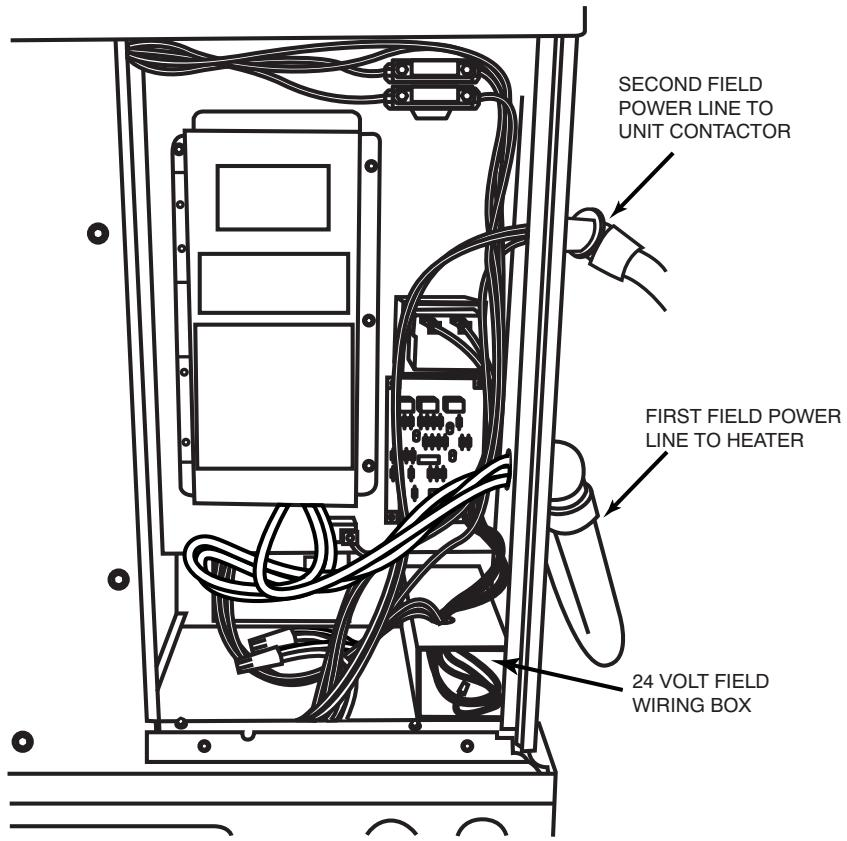
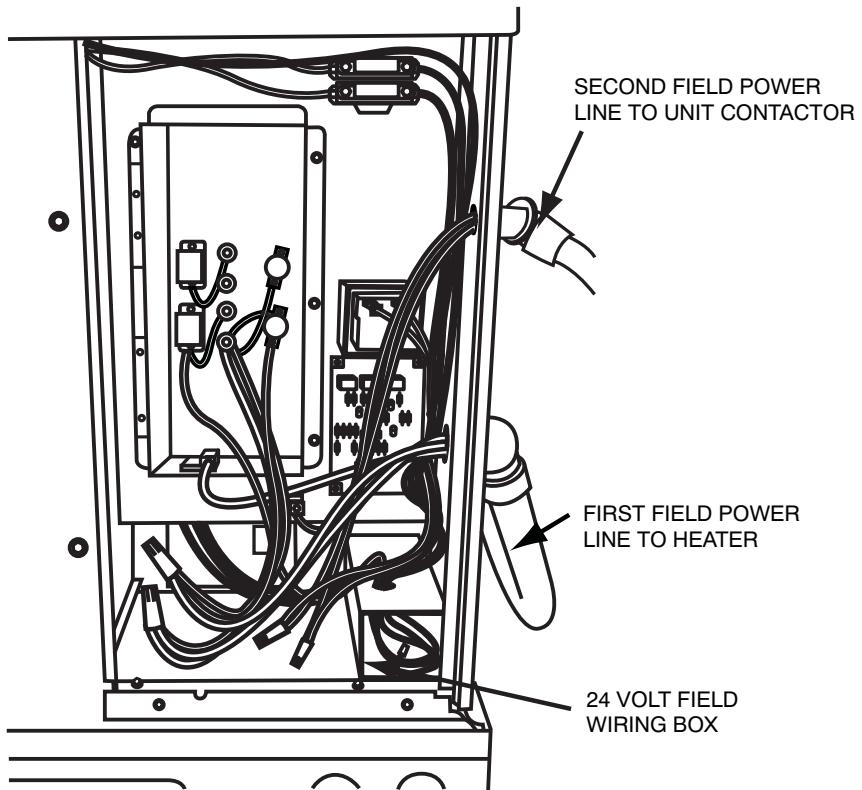

Fig. 6 - Dual Point Connections for Fused Heater
Fig. 7 - Dual Point Connection for Non-Fused Heater
2. Connect low voltage wires as shown in unit schematic diagrams found on the base unit installation instructions. These connections must be made in the 24v barrier section inside the unit panel (see Fig. 6 or Fig. 7).
3. Insert first field power line through the electrical heater access panel bottom hole (see Fig. 6 or Fig. 7) and connect to electric heater as shown in their respective wiring diagram found on the heater accessory kit. Fused electrical heaters field lines will be connected to the fuse block lugs and non fused electric heater field lines will be connected to heater leads using wire nuts. Ground electrical equipment in the appropriate locations.
4. Insert second field power line through the electrical heater access panel top hole (see Fig. 6 or Fig. 7) and connect to unit contactor black and yellow leads using wire nuts. Ground electrical equipment in the appropriate locations.